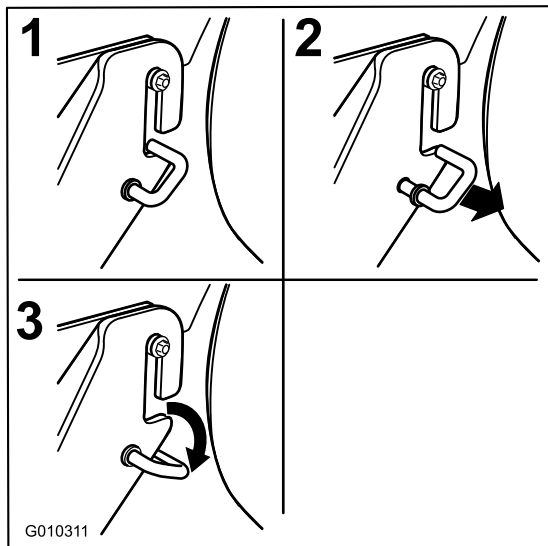

Figure 74
1. Move the spring loaded J-hooks out of the slot in the rear hanger brackets on both sides of the deck (Figure 74).